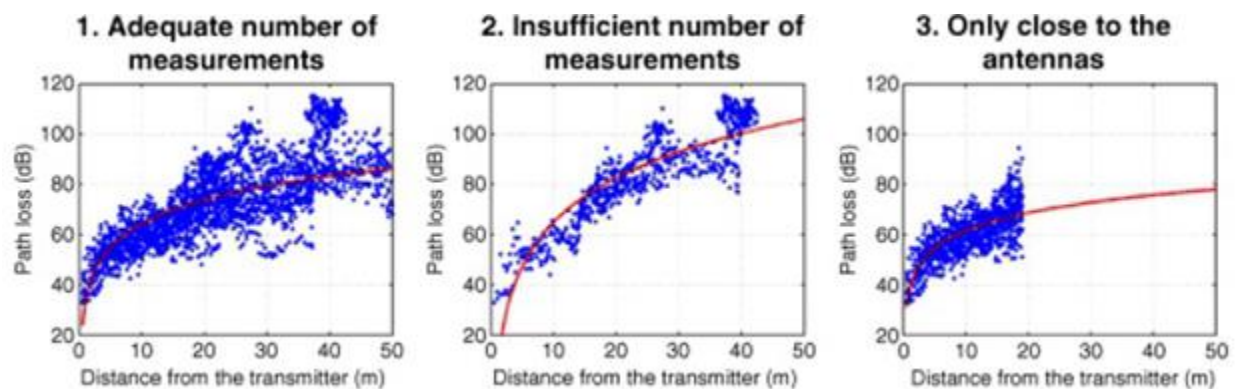

Figure 24. Effect of sampling manner on quality of calibration
- The left plot in figure 24 represents the ideal scenario. The user here captured an adequate number of samples and calibrated his propagation model to produce the solid curve. Consider this as the ideal reference curve and compare it to the next improper scenarios.